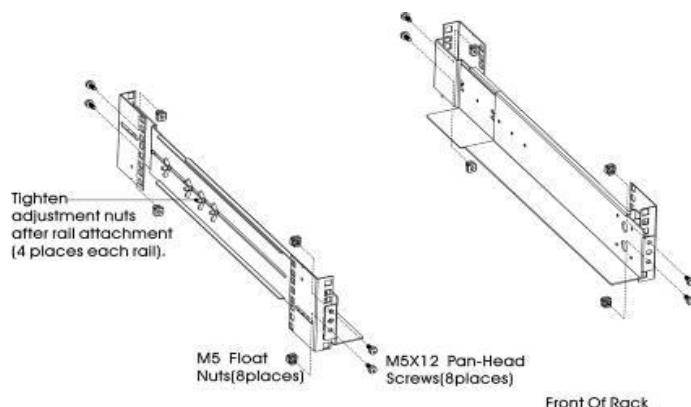

Figure2 - Fixing the Rails
- b) Select the proper size in the rack for positioning the UPS (see Figure 2). The rail occupies four positions on the front and rear of the rack.